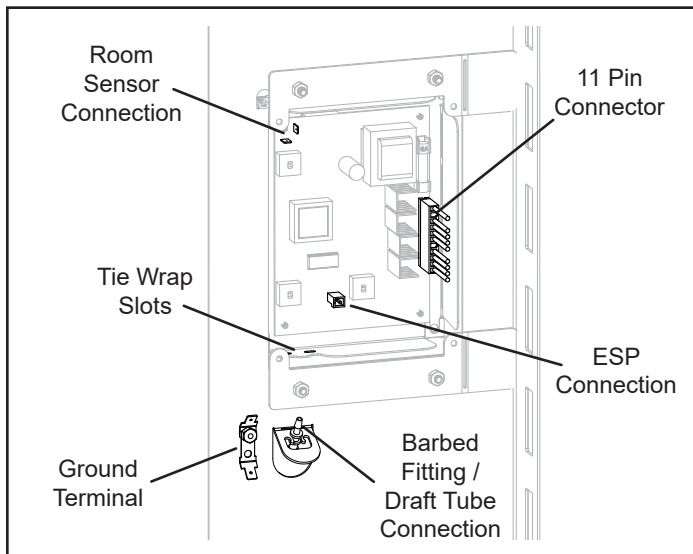

Figure 5.6 - Connect wiring and Draft Hose.
- Install barbed fitting with cap by bending tab inward roughly 30 degrees and snap barbed fitting into slot, Figure 5.6.
- Push the silicone draft tube onto rear side of fitting, Figure 5.6.
- Push the ground wire onto the ground terminal, Figure 5.6
- Connect the ESP sensor, Figure 5.6.
- Using (2) cable ties supplied, cable tie the wiring harness to the bottom of the control cover, Figure 5.6.
- Plug in the remote sensor wire, Figure 5.6.
Connect the room sensor to the control board, Figure 5.6. Using a minimum size 18 gauge wire, you may splice in an additional length, to extend the room sensor. The following are typical locations for the room sensor;